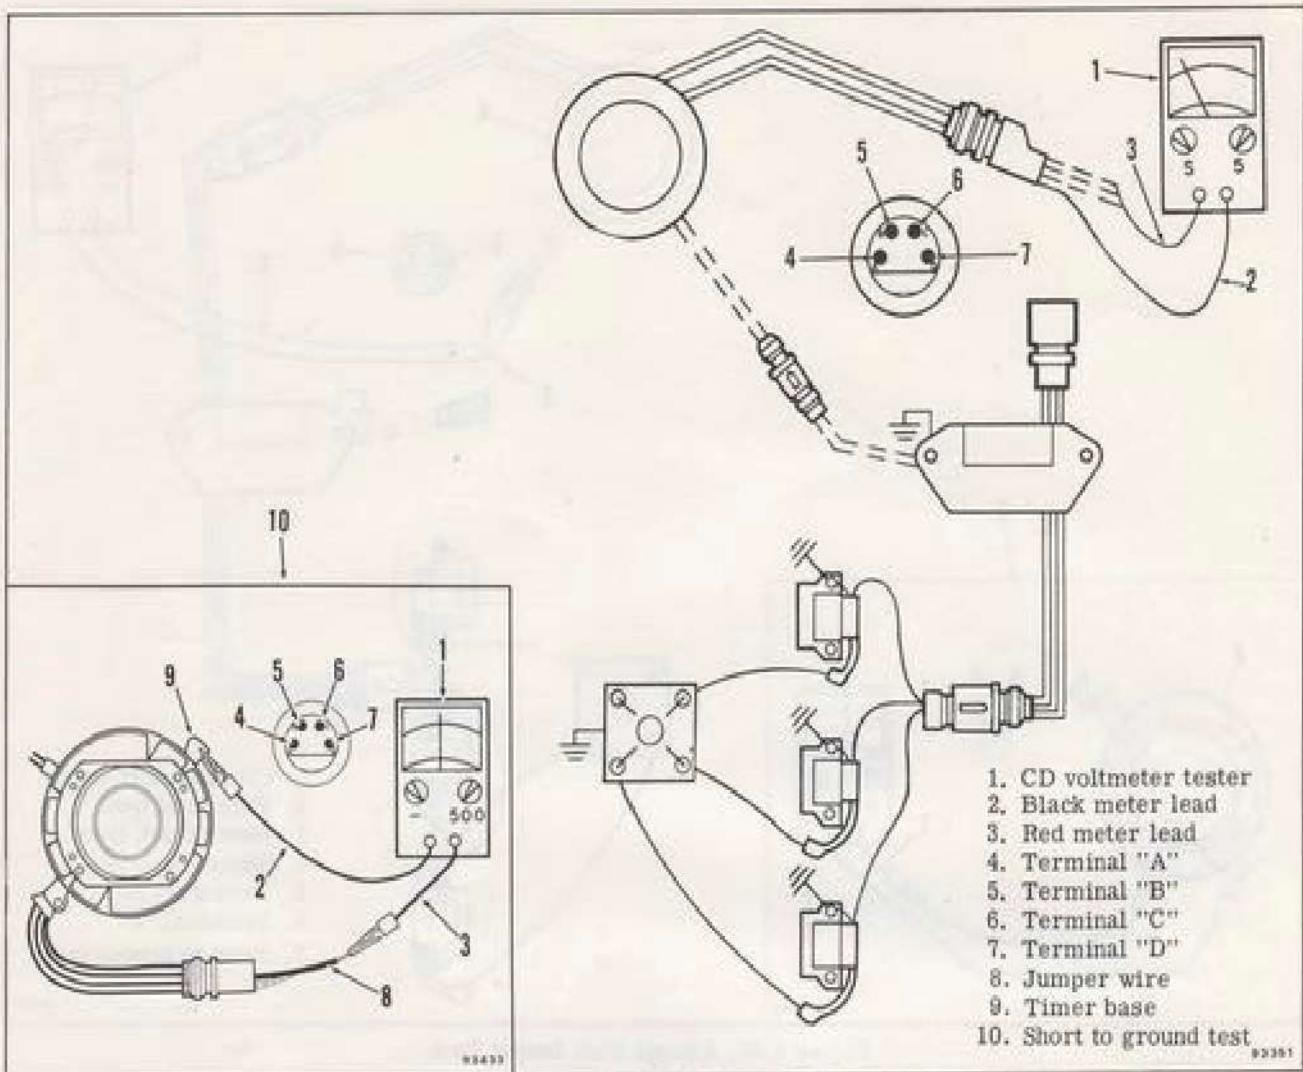

Figure 4-28. Sensor Coil Output Test.
a. Set meter switches to "S" and 5. Separate four-wire connector between timer base and power pack. To test for shorts to ground. Connect the black meter lead (-) to the timer base (ground). Attach the red meter lead (+) to the "A" terminal, then "B," then "C," then "D," jumper wire in the connector. See Figure 4-28. Any needle movement indicates the sensor coil or leads are shorted to ground. A shorted sensor must be replaced, or the grounded lead repaired to remove the shorted condition.
c. Insert meter red lead probe into cavity "A" of four-wire connector from timer base. See Figure 4-28.